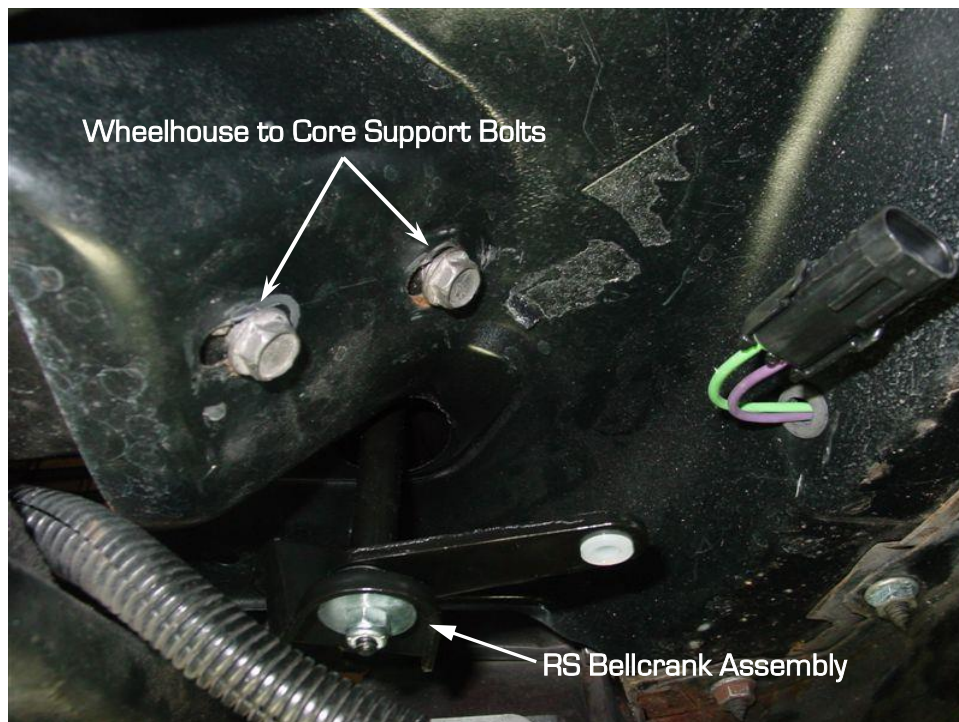

Figure 11 - Location of Core Support Bolts
4. Locate the two bolts on the passenger side that attach the inner wheelhouse to the core support underneath the front fender area. Figure 11 shows the location of the bolts.